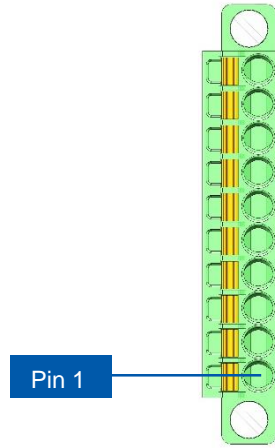

Figure 29. CNR1 Pin Assignment
1. If the PCS100HV is connected to BMS by Ethernet, a switcher should be used as shown in Fig.29. and the BMS communication wire, PCS communication wire and EMS communication wire should be connected to the same Ethernet switcher.